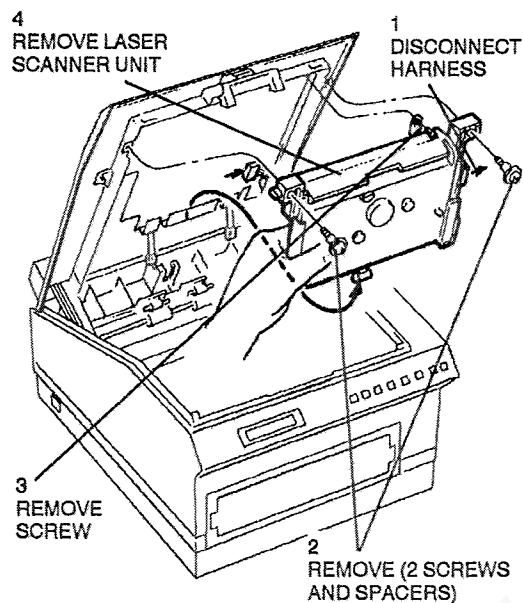

Figure 1. Laser scanner unit removal
3. (Figure 1) Remove the laser scanner unit.